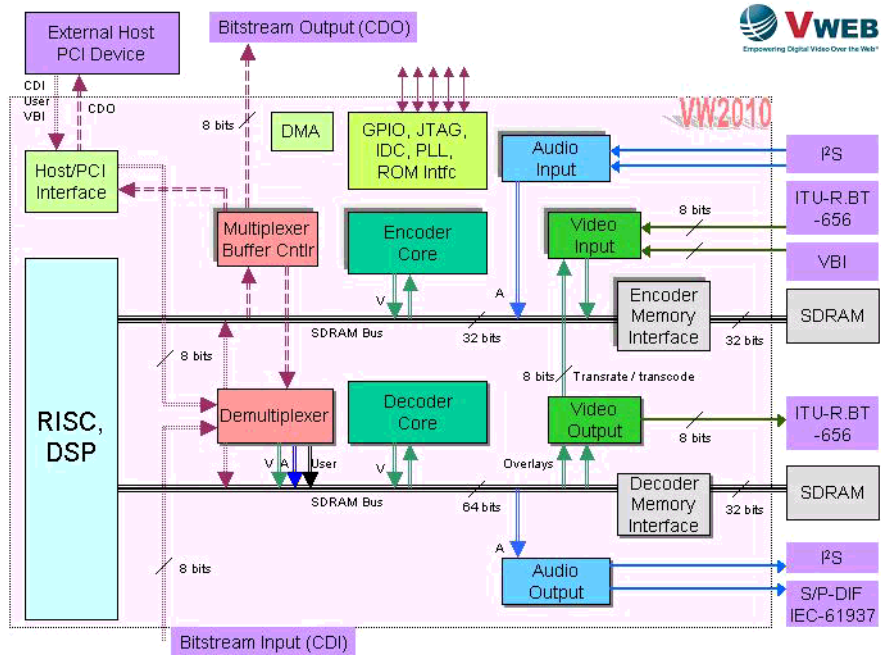

Figure 2 Data Path Diagram of the Vweb VW2010
- Direct input and output ports (shown in Figure 2 on page 5)
- Two dedicated high-speed SDRAM buses (shown in Figure 2 on page 5)
The main I/O ports of the VW2010 are shown in Figure 2 on page 5. A list and description of the I/O signals are presented at the end of this manual (“Encoder Interface Signals” on page 63, “Decoder Interface Signals” on page 69, and “System Interface Signals” on page 75).